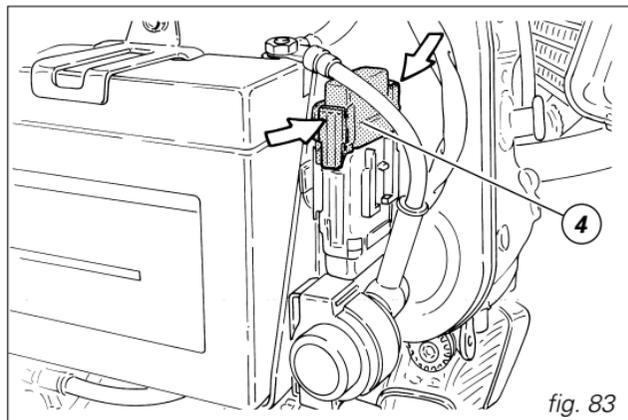

fig. 83
The fuse located on a side of the battery (fig. 83) protects the electronic regulator. Remove the fuse cap (4) to expose it.